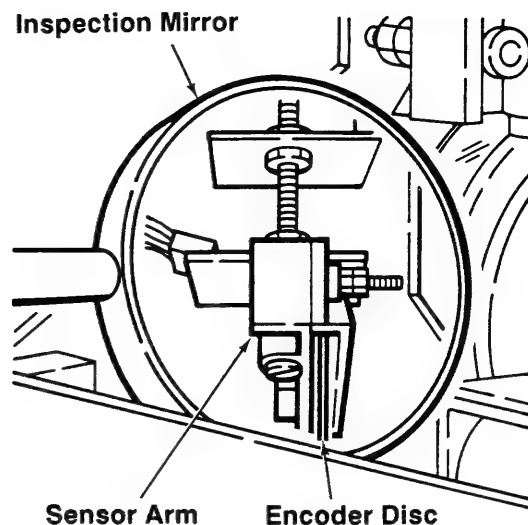
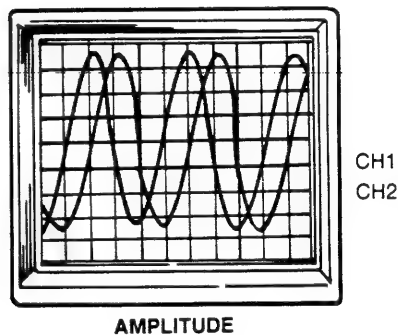

Figure 3-6.3D
Figure 3-6.3E
12. Turn the Speed Control clockwise to advance film at a medium speed. Listen and ensure that the Encoder Disc is not rubbing the sensor (Figure 3-6.3D). The amplitude of the Channel 1 and Channel 2 displays should be greater than 3 Vpp without clipping or distortion (Figure 3-6.3E).